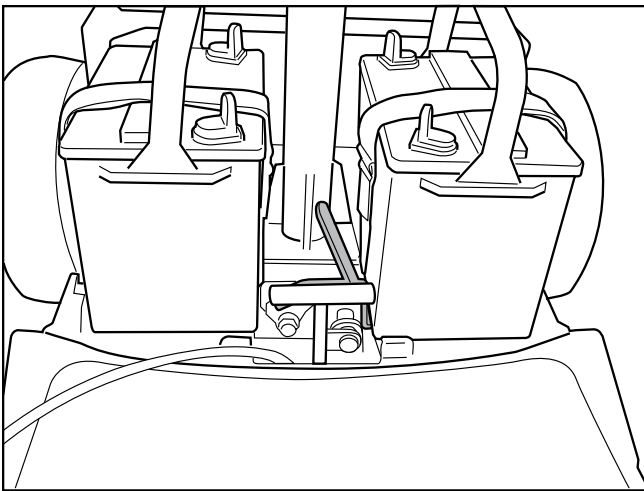

Fig. 30
5. The figure above shows the batteries properly placed and secured with hook and loop straps and the latch properly engaged. (Fig. 30)